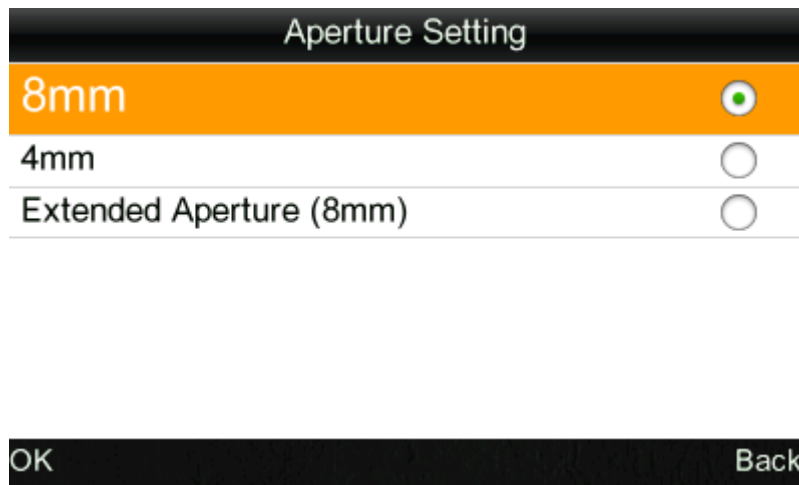

Figure 51 Aperture Setting
- c) Select “Settings” - “Aperture Setting” to enter an interface shown in Figure 51. This interface is used for selecting measuring aperture. ***After changing the aperture, be sure to select the corresponding aperture in “Aperture Setting”, or it will cause the inaccuracy of the measured data.*** After changing the aperture, ***you need to re-perform white and black calibration, or it will also cause the inaccuracy of the measured data.***